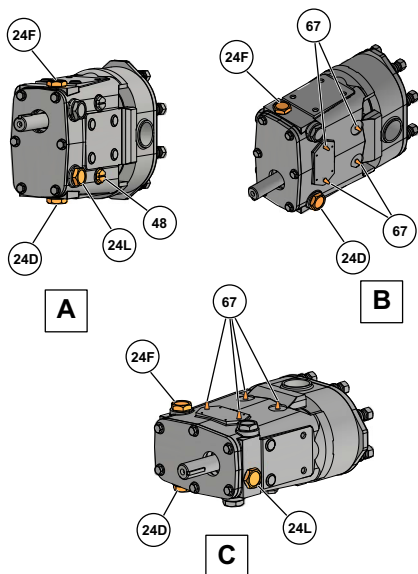

Figure 23 - Lubrication Points
Excess grease will accumulate in the gear case and must be removed through the cleanout hole covered with a plastic plug (Figure 23, item 48).